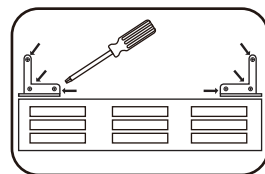

fig 3.4.7
- C. Transfer the saved the connecting piece(shown in the **Fig3.4.7**) to the underside of the door on the opposite side.